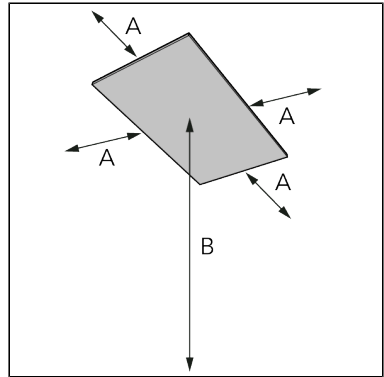

Figure 37.
2. Place the device with a minimum distance (Figure 37) of: